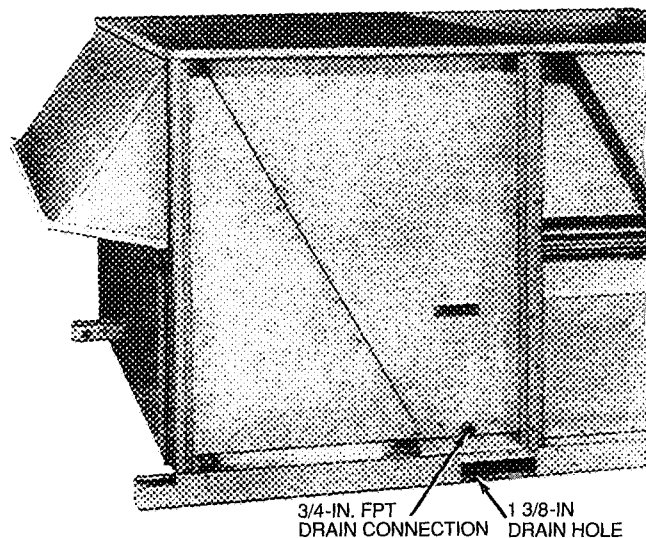

Fig. 10 – Condensate Drain Details
Step 6 – Trap Condensate Drain — See Fig. 10 for drain location. One 3/4-in. half coupling is provided inside unit evaporator section for condensate drain connection. An 8 1/2 in. x 3/4-in. diameter and 2-in. x 3/4-in. diameter pipe nipple, coupled to standard 3/4-in. diameter elbows, provides a straight path down through hole in unit base rail (see Fig. 11). A trap at least 4 in. deep must be used.